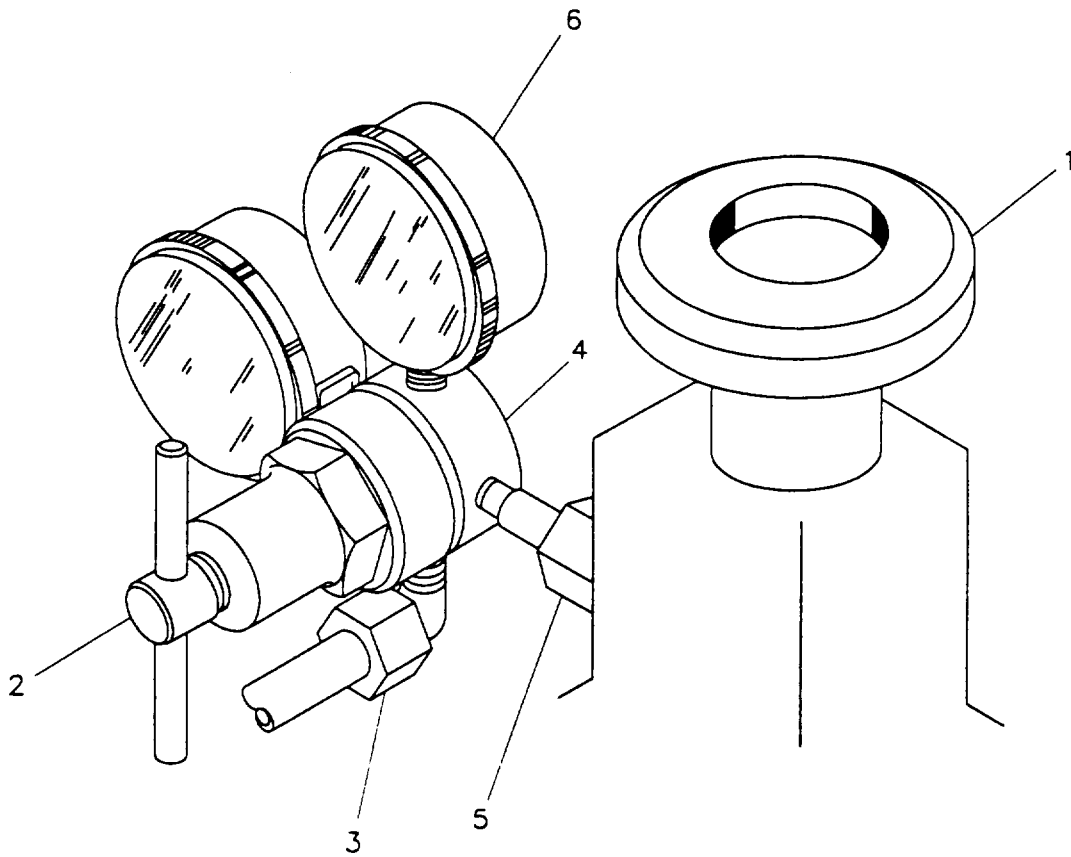

Figure 4-14. Pressure Regulator Assembly Replacement
**4-21 PRESSURE REGULATOR ASSEMBLY REPLACEMENT. (Refer to Figure 4-14)**